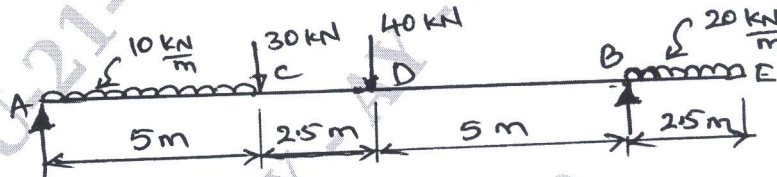

Fig.Q5(c)
- c. Draw shear force and bending moment diagram for the beam shown in Fig.Q5(c). Mark the position of maximum bending moment and determine its value. Also find the point of contraflexure.